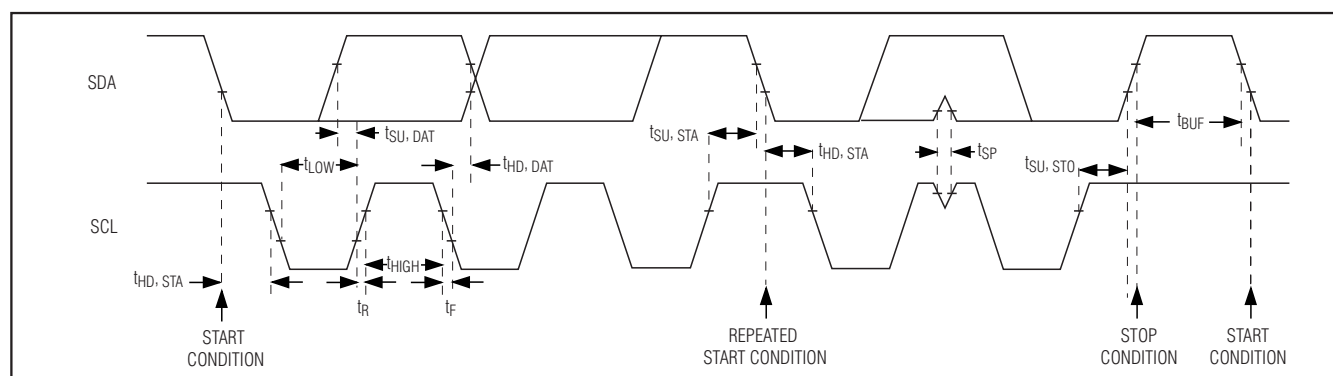

Figure 10. I²C Serial Interface Timing Diagram
The MAX9526 features an I2C/SMBus™-compatible, 2-wire serial interface consisting of a serial-data line (SDA) and a serial-clock line (SCL). SDA and SCL facilitate communication between the MAX9526 and the master at clock rates up to 400kHz. Figure 10 shows the 2-wire interface timing diagram. The master generates SCL and initiates data transfer on the bus. The master device writes data to the MAX9526 by transmitting the proper slave address followed by the register address and then the data word. Each transmit sequence is framed by a START (S) or REPEATED START (Sr) condition and a STOP (P) condition. Each word transmitted to the MAX9526 is 8 bits long and is followed by an acknowledge clock pulse. A master reading data from the MAX9526 transmits the proper slave address followed by a series of nine SCL pulses. The MAX9526 transmits data on SDA in sync with the master-generated SCL pulses. The master acknowledges receipt of each byte of data. Each read sequence is framed by a START or REPEATED START condition, a not acknowledge, and a STOP condition. SDA operates as both an input and an open-drain output. A pullup resistor, typically greater than 500 $\Omega$ , is required on SDA. SCL operates only as an input. A pullup resistor, typically greater than 500 $\Omega$ , is required on SCL if there are multiple masters on the bus, or if the single master has an open-drain SCL output. Series resistors in line with SDA and SCL are optional. Series resistors protect the digital inputs of the MAX9526 from high-voltage spikes on the bus lines, as well as minimize crosstalk and undershoot of the bus signals.